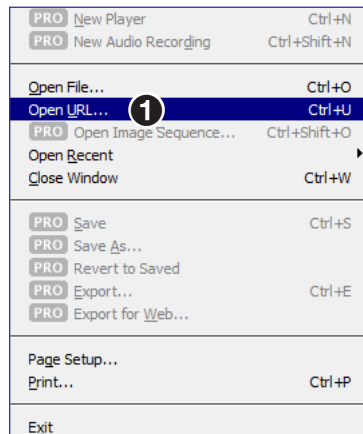

Figure 88. QuickTime Player Menu — Open URL
4. From the **File** menu, select **Open URL** (see figure 88, ❶).